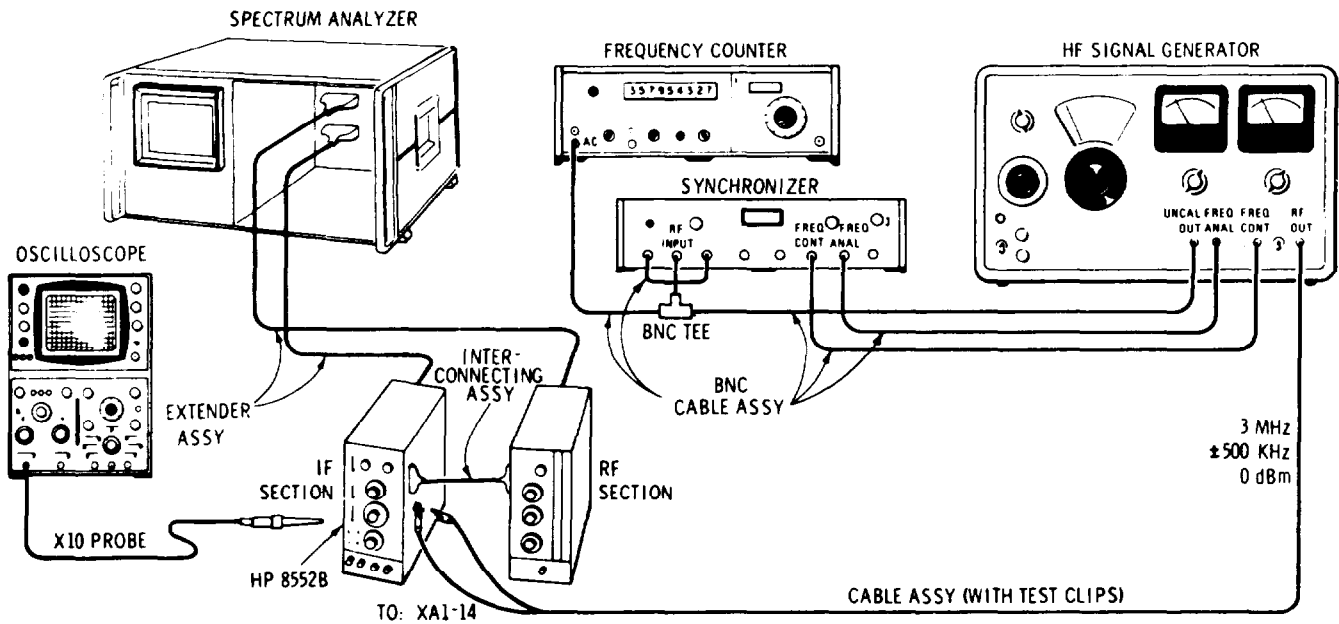

Figure 5-7. Crystal Filter Fine Adjustment Test Setup
- CABLE ASSEMBLY (6) . . . . . HP 10503A
1. Remove A2 3 MHz Amplifier Assembly, connect the test setup in Figure 5-7 and make the following control settings: